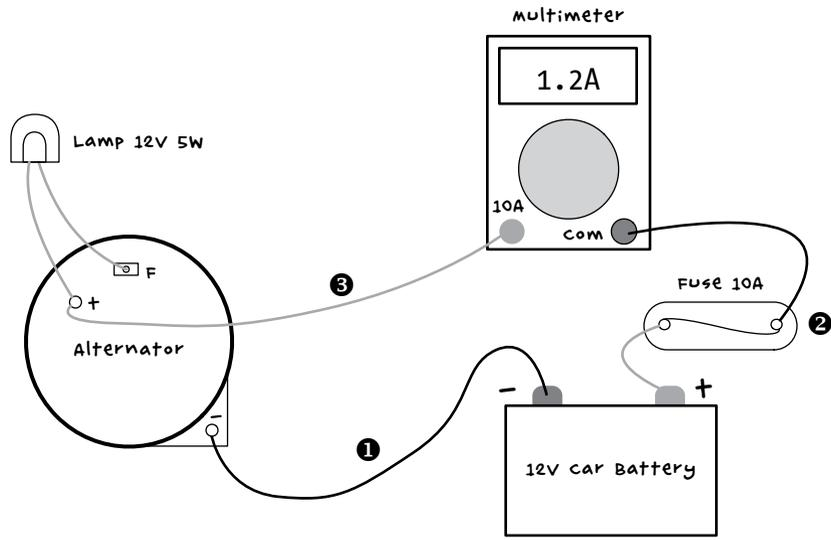

FIGURE 2-17: WIRING DIAGRAM FOR THE CYCLE CHARGER
Now that you know which terminal of the alternator is which, you need to make some leads to connect everything together. The wiring diagram shows how to do this (Figure 2-17).
There are a few leads to make. Let's start with the lead from the negative terminal of the alternator to the battery negative terminal (❶ in Figure 2-17). This needs a large alligator clip on the battery end and a butt connector on the other, as shown (Figure 2-18).
The most convenient type of fuse holder has trailing wires at each end. You can use these trailing wires to make the lead between the positive terminal of the battery and the multimeter (❷ in Figure 2-17). Attach an alligator clip lead to one fuse wire and attach the remaining third of the black multimeter lead to the other fuse wire. Wrap the connection between the fuse and multimeter leads with electrical tape, and you should have the completed lead (Figure 2-19).
The final of the three leads (Figure 2-20 and ❸ in Figure 2-17) combines both the lamp and the positive charging connector from the alternator to the multimeter.
With all the leads prepared, it's time to connect everything according to the diagram in Figure 2-17.